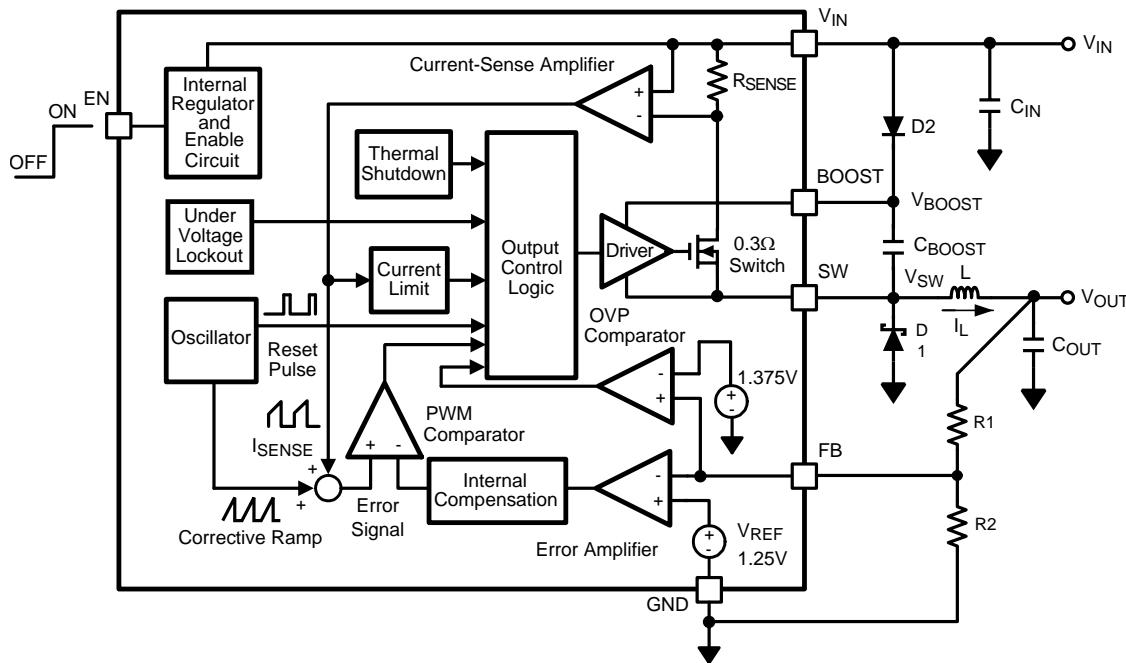
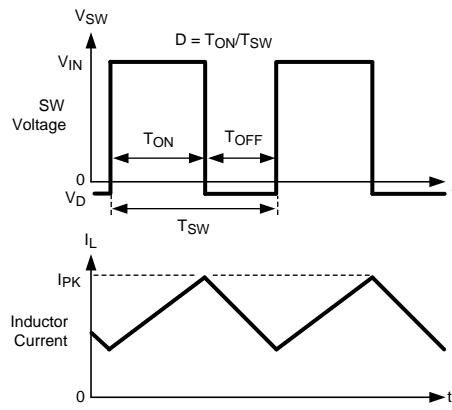

Figure 19.
Figure 20. LM2736 Waveforms of SW Pin Voltage and Inductor Current
The following operating description of the LM2736 will refer to the Simplified Block Diagram (Figure 19) and to the waveforms in Figure 20. The LM2736 supplies a regulated output voltage by switching the internal NMOS control switch at constant frequency and variable duty cycle. A switching cycle begins at the falling edge of the reset pulse generated by the internal oscillator. When this pulse goes low, the output control logic turns on the internal NMOS control switch. During this on-time, the SW pin voltage (V_{SW}) swings up to approximately V_{IN} , and the inductor current (I_L) increases with a linear slope. I_L is measured by the current-sense amplifier, which generates an output proportional to the switch current. The sense signal is summed with the regulator's corrective ramp and compared to the error amplifier's output, which is proportional to the difference between the feedback voltage and V_{REF} . When the PWM comparator output goes high, the output switch turns off until the next switching cycle begins. During the switch off-time, inductor current discharges through Schottky diode D1, which forces the SW pin to swing below ground by the forward voltage (V_D) of the catch diode. The regulator loop adjusts the duty cycle (D) to maintain a constant output voltage.
In the Simplified Block Diagram of Figure 19, capacitor C_{BOOST} and diode D2 supply the gate-drive current for the NMOS switch. Capacitor C_{BOOST} is charged via diode D2 by V_{IN} . During a normal switching cycle, when the internal NMOS control switch is off (T_{OFF}) (refer to Figure 20), V_{BOOST} equals V_{IN} minus the forward voltage of D2 (V_{FD2}), during which the current in the inductor (L) forward biases the Schottky diode D1 (V_{FD1}). Therefore the voltage stored across C_{BOOST} is